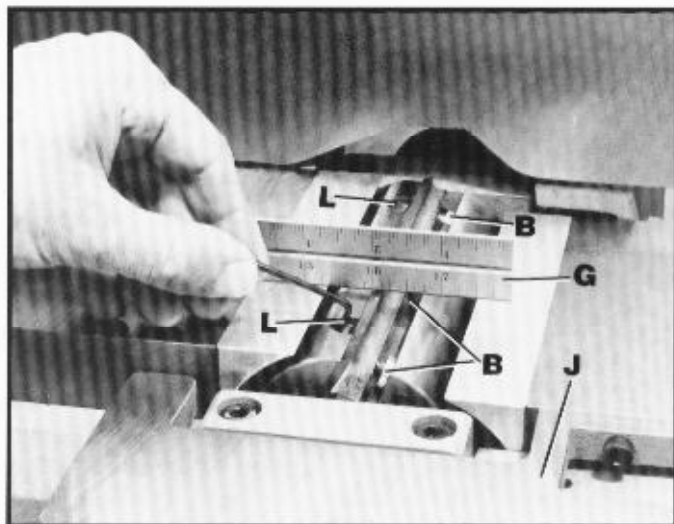

Fig. 32
4. Lower the infeed table (J) Fig. 32, and place a straight edge (G) on the outfeed table extending over the cutterhead as shown.
6. To raise the knife, use wrench as shown in Fig. 32, and turn screw (L) clockwise until the knife just touches the straight edge (G). Repeat this procedure on the other side of the cutterhead.
7. Tighten the three knife locking screws (B) Fig. 32. Adjust the remaining two knives in the same manner. **CAUTION:** Make certain that all knives are securely fastened before turning on the machine.